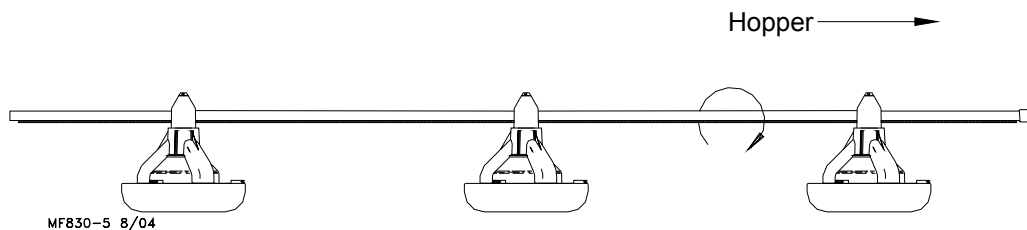

Figure 31. Assemble Feeders on Tubes
2. Rotate the auger tubes so that the seam is down, this holds the Pan Assemblies in place on the tubes, **see figure 31.**